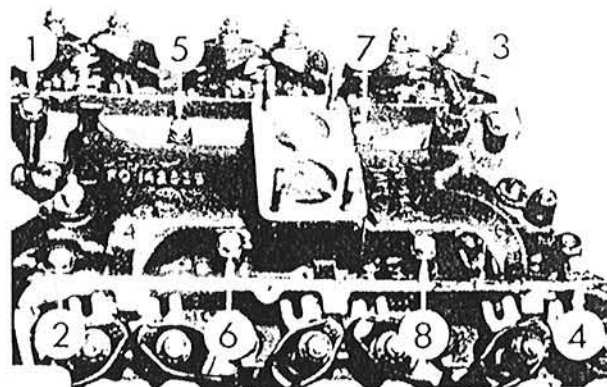

Fig. 3.27 Inlet manifold bolt tightening sequence for 3.0 litre engines (Sec 19)
- 4 Unscrew the inlet manifold bolts progressively in the reverse order to that given in Fig. 3.27.
- 9 Fit the inlet manifold then insert the bolts and tighten them progressively in the sequence shown in Fig. 3.27 and in the stages given in the Specifications.